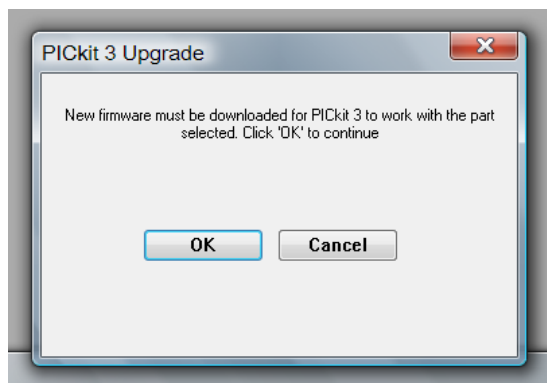

FIGURE 6-7
- 6.2.5** The first time you use the PICkit 3 programmer, it will need to download the proper firmware specific to the selected device, in this case, the PIC18F458 microcontroller. If you've selected the device for the first time, you will see a message similar to Figure 6-7.